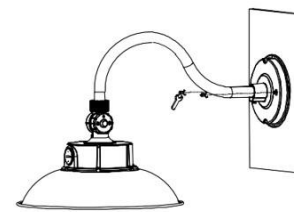

Fig 5
5. Insert the protruding screw threads through the screw holes of the mounting base. Secure the fixture using the 2 cap nuts removed in Step 1 (Fig 5). Loosen the butterfly bolt to adjust the angle of the lampshade as needed then re-tighten. Select the desired CCT, wattage, and photocell settings before restoring power (see CCT & Wattage Selectable Guide section).